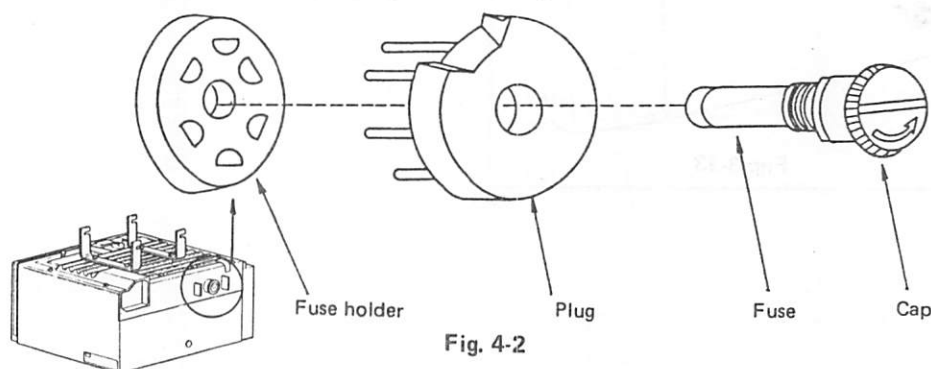

Fig. 4-2
- ① Turn the power OFF.
- ② Turn the fuse holder cap in Fig. 4-2 in the direction shown by the arrow, using a coin, then remove the cap. (Do not use a screw-driver to remove the cap. Use a coin.)
- ② Turn the fuse holder cap in Fig. 4-2 in the direction shown by the arrow, using a coin, then remove the cap. (Do not use a screwdriver to remove the cap. Use a coin.)
③ Unplug the plug shown in Fig. 4-2, change the plug angle until the desired voltage indication becomes visible, then plug it back in.
④ Tighten the cap with a coin.